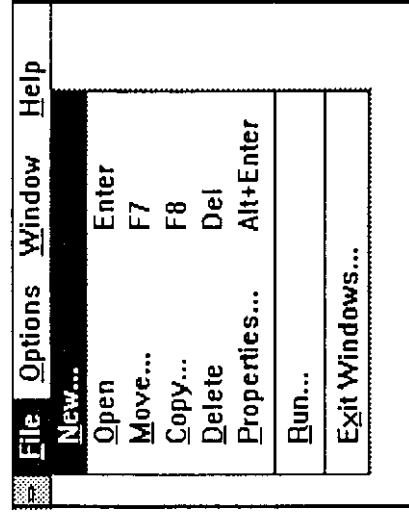

Figure 3-9.
- ❑ 3. CLICK on FILE or press ALT + F (see Figure 3-9)